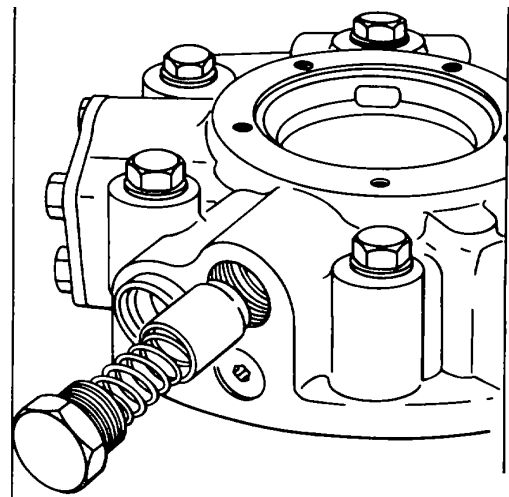

Figure 189.
1. Remove low pressure relief valve plug (73) O-ring (17), spring (62), and plunger (61). See Fig 189.